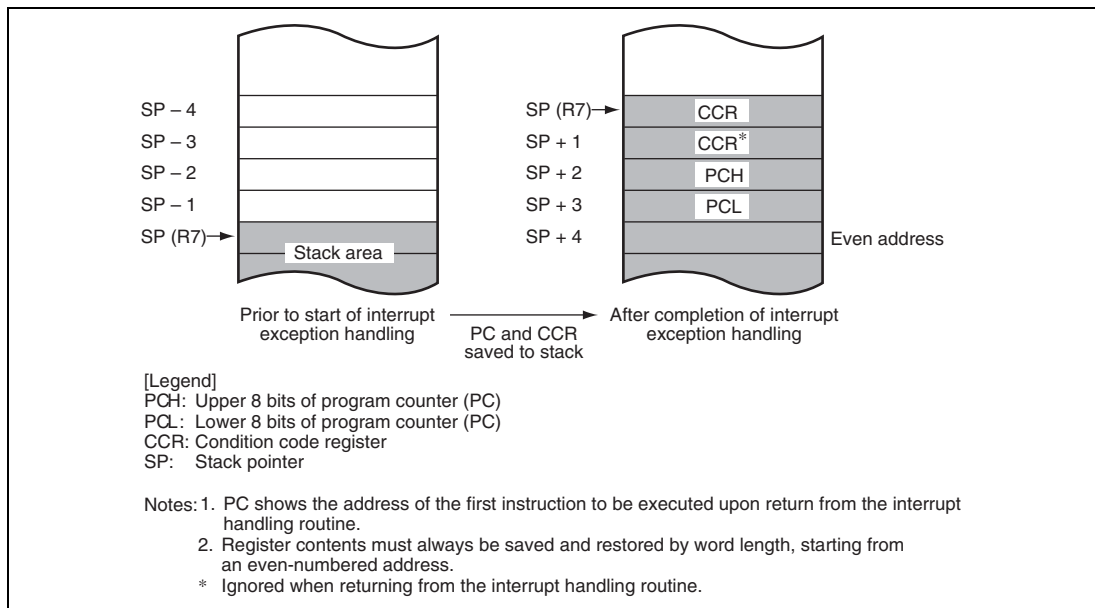

Figure 3.5 Stack Status after Exception Handling
5. If the interrupt request is accepted, after processing of the current instruction is completed, both PC and CCR are pushed onto the stack. The state of the stack at this time is shown in figure 3.5. The PC value pushed onto the stack is the address of the first instruction to be executed upon return from interrupt handling.
Figure 3.5 shows the stack after completion of interrupt exception handling.